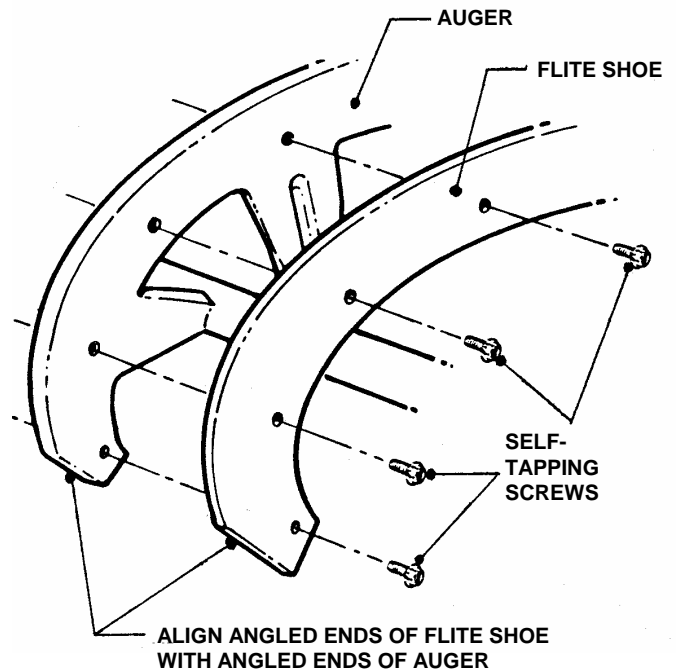

FIGURE 4.7
3. Install new flite shoes to auger using self-tapping screws removed previously. Tighten screws securely. DO NOT overtighten. See Figure 4.7.